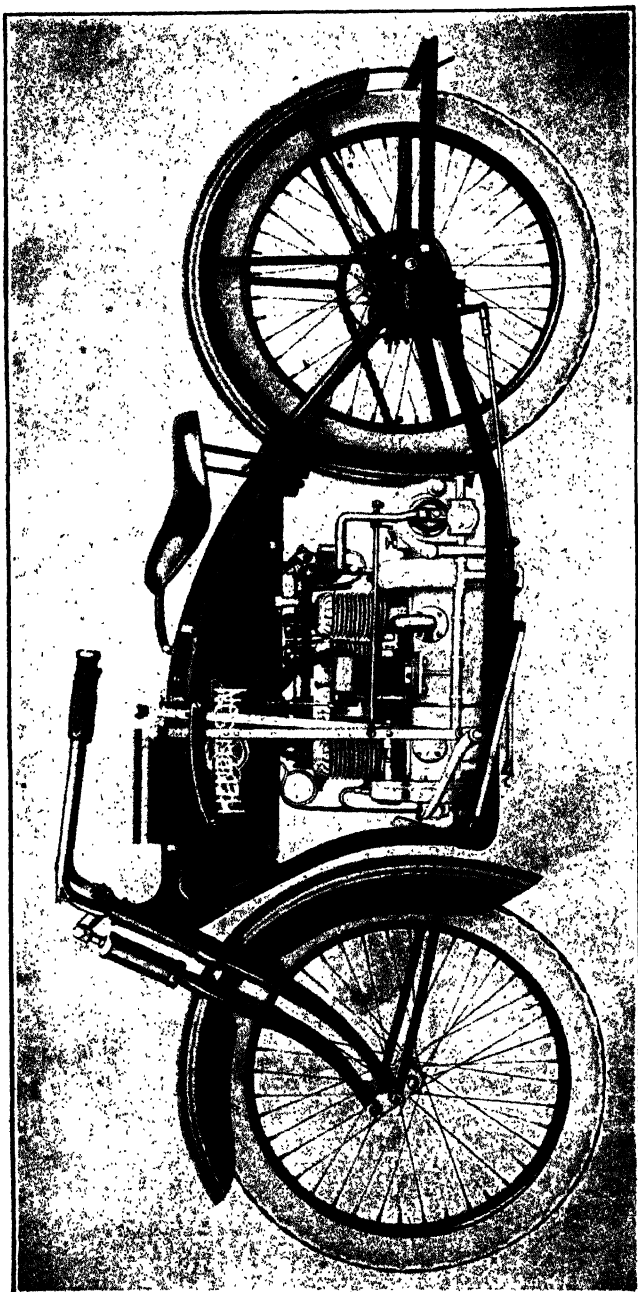

Fig. 13. Henderson Four-Cylinder Motorcycle
*Four-Cylinder.* The Henderson Motorcycle Company, of Detroit, has been the successful champion of the four-cylinder design, Fig. 13. These engines are air cooled and have a bore of  $2\frac{1}{4}$  inches and a stroke of 3 inches, giving a piston displacement of 58.9 cubic inches. The Henderson has been on the market for several years, and the construction in the past has included a bevel gear at the rear of the crankshaft, which drove through a chain to a planetary two-speed transmission incorporated in the rear hub. For the coming season,